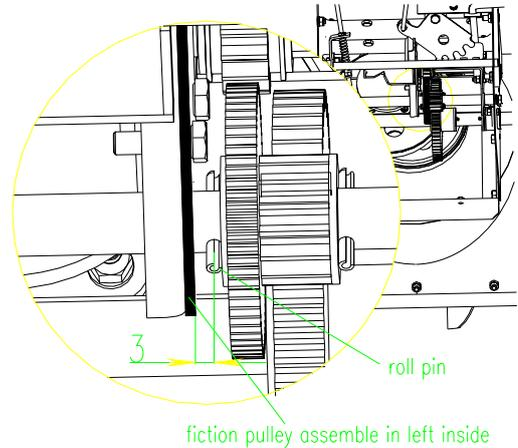

FIG 22
**Note:** The drive assembly should be 1/8 inch (3mm) from the roll pin; if not, slide the selector plate until the gap is 1/8 inch (3mm). (FIG 22)